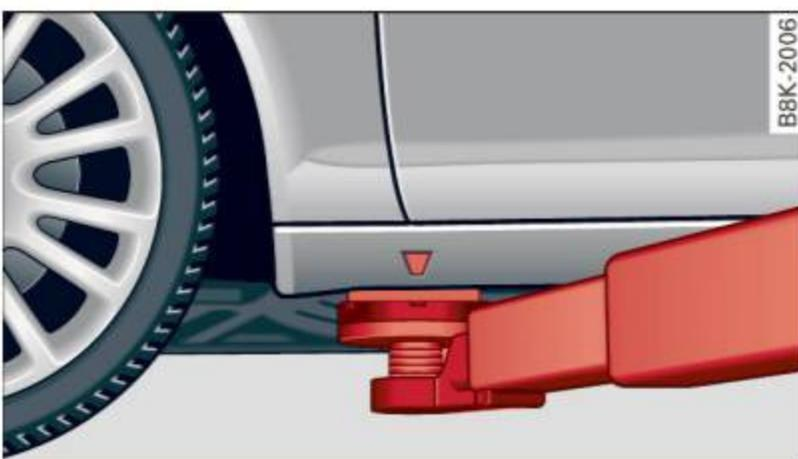
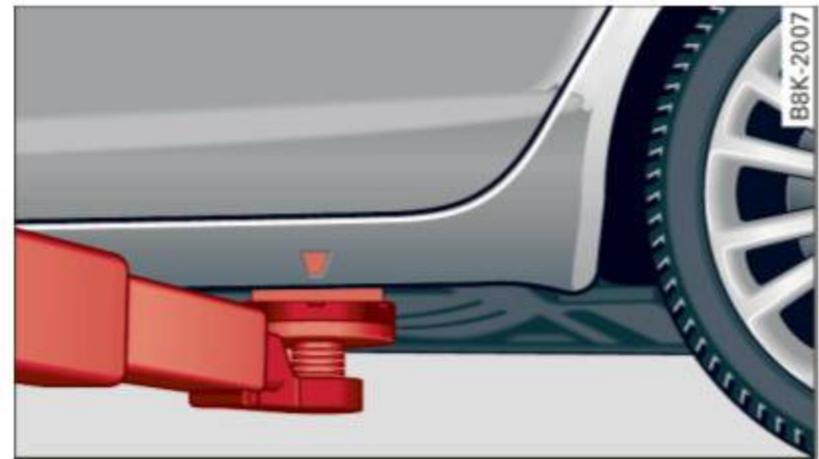

Fig. 219 Front lifting point
Fig. 220 Rear lifting point
- ▶ Locate lifting points ⇒ *fig. 219* and ⇒ *fig. 220*.
The lifting point is located on the floor pan reinforcement about at the same level as the jack mounting point ⇒ *fig. 219*. **Do not lift the vehicle at the vertical sill reinforcement.**
The lifting point is located on the vertical reinforcement of the lower sill for the onboard jack ⇒ *fig. 220*.
- Always lift the vehicle only at the special workshop hoist and floor jack lift points illustrated ⇒ *fig. 219* and ⇒ *fig. 220*.